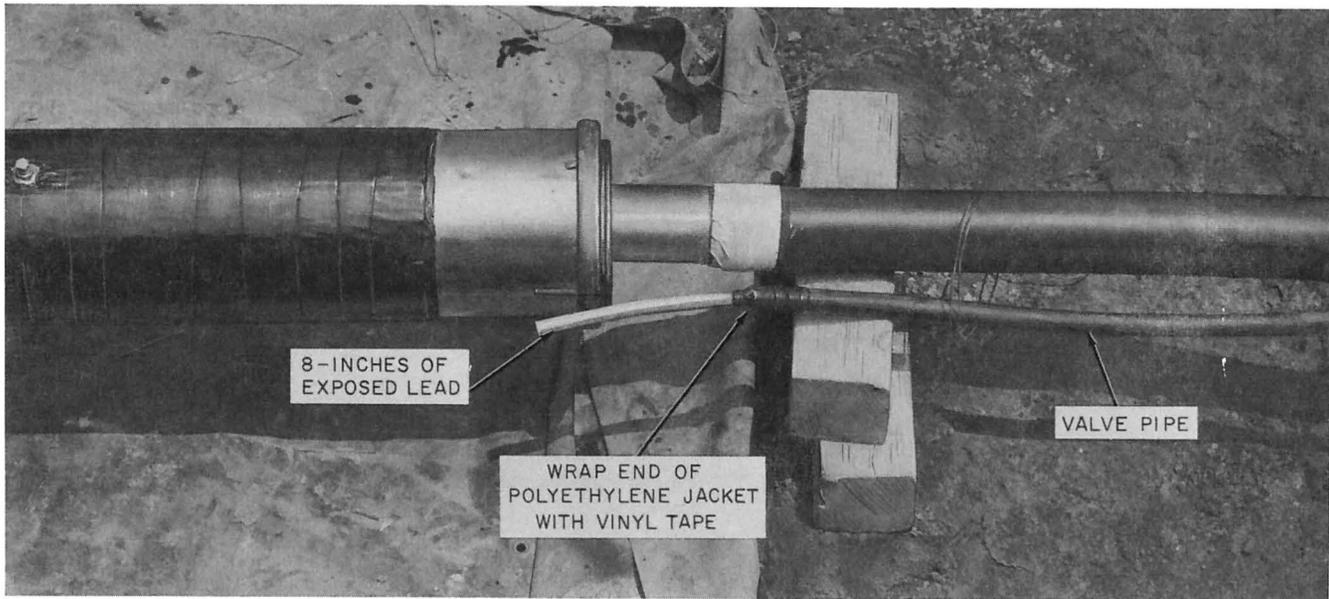

Fig. 10—Prepared Valve Pipe
- (a) Remove 8 inches of outer jacket from valve pipe as shown in Fig. 10. When the valve pipe is equipped with rodent protection it will be necessary to remove the layer of corrugated steel and inner polyethylene jacket, then solder bond the corrugated steel to the lead.